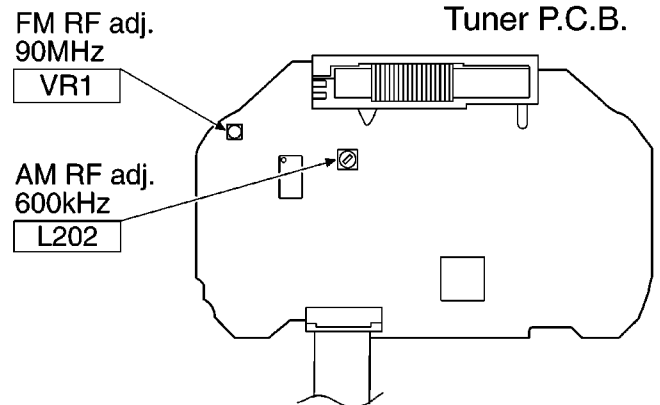

Fig. 15-3.
6. Adjust VR1 for maximum output. Refer to Fig. 15-3.
6. Adjust L202 for maximum output. Refer to Fig. 15-3.